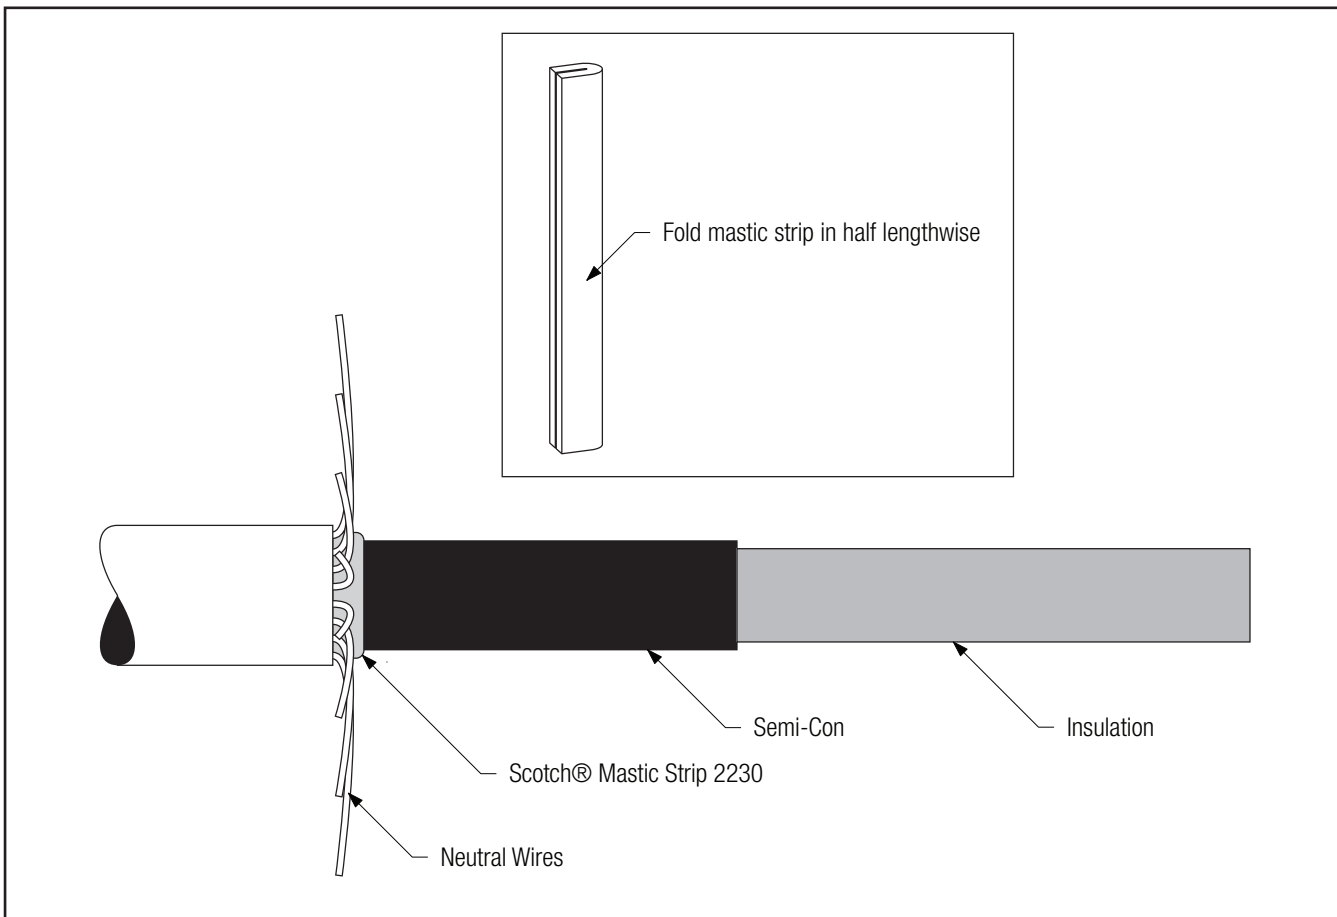

Figure 2
- 2.4 If using JCN or Flat Strap Cable:** Carefully bend the cut neutral wires up and away from the cable semi-con as shown. Fold one Scotch® Mastic Strip 2230 in half lengthwise and apply one wrap only at cable jacket edge under the neutral wires (*Figure 2*).